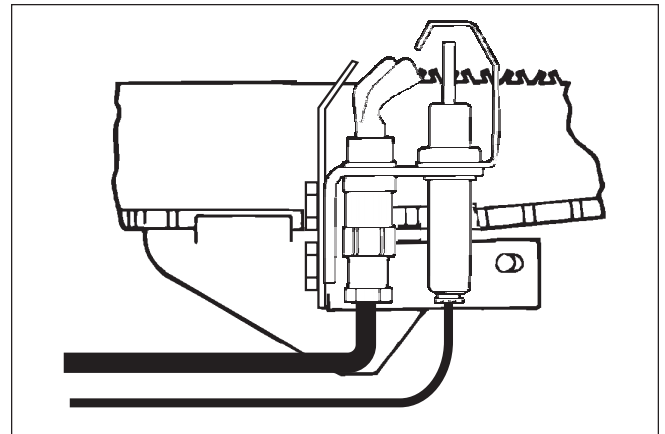

Figure 37. Pilot location (spark ignition).
4. Make sure the pilot burner is positioned next to the main burner (see Figure 37) and there is no soot or dirt on it.